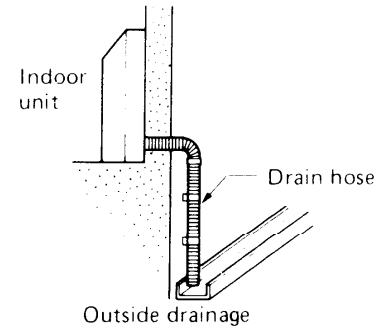

Fig. 1
- select a location where tubing and drain pipe have shortest run to the outside. Fig. 1